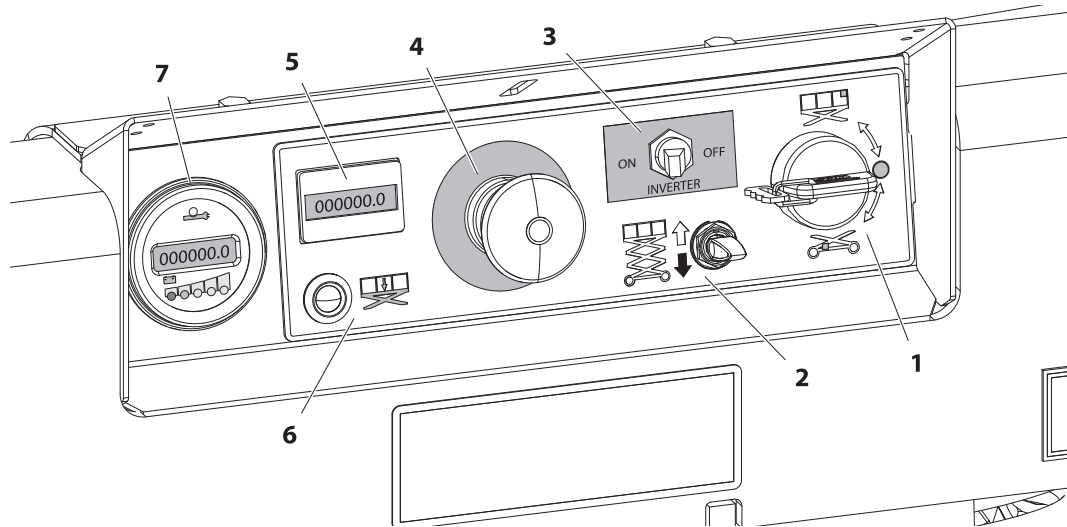

Figure 3-2. Ground Control Station
1. From the **Ground Control Panel** with no load in the platform: (See Figure 3-2. on page 3-5)
(Item 1 - Figure 3-2.)
(Item 2 - Figure 3-2.)
(Item 3 - Figure 3-2.)
(Item 4 - Figure 3-2.)
(Item 5 - Figure 3-2.)
(Item 6 - Figure 3-2.)
(Item 7 - Figure 3-2.)